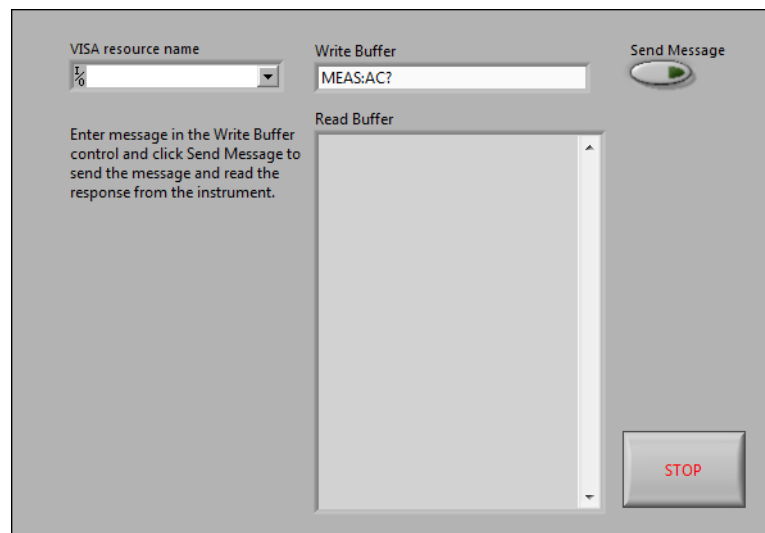

Figure 1. VISA Write Read Buffer Front Panel
Figure 1 and Figure 2 show an example of the completed front panel and block diagram respectively.
14. Arrange the controls on the front panel as seen in Figure 1.